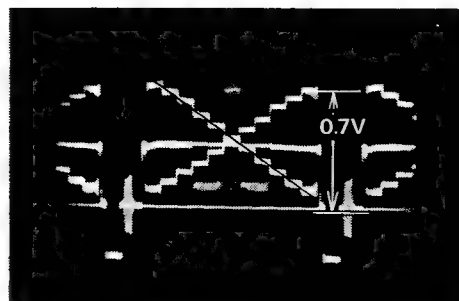

Fig 7.28
- (1) Effect the procedure detailed in Section 7.2.7.1 (TP-1 = 0.6V)
- (2) Connect the oscilloscope probe between the PAL-type VIDEO output and the earth terminal
- (3) Adjust VR13 **Y-γ ADJ** volume on the Video Process PCB (CA 1501A) until the step waveform shown in Figure 7.28 forms a straight line.